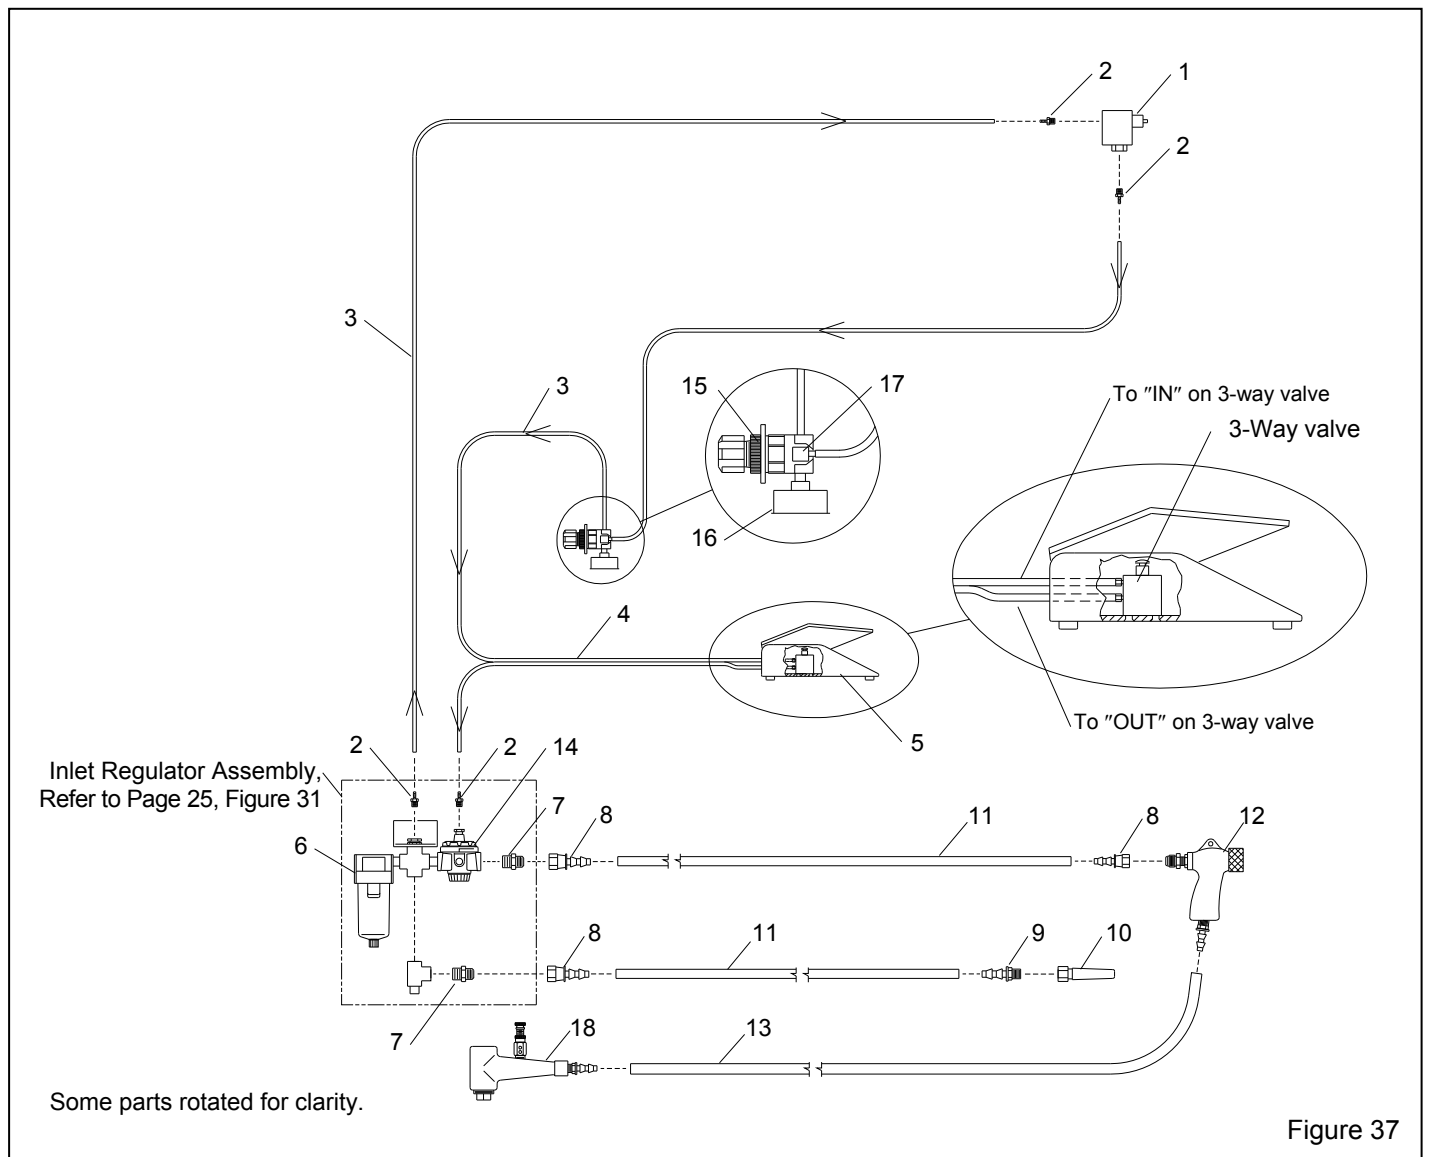

Figure 37
9.8 Cabinet Plumbing assembly, Figure 37